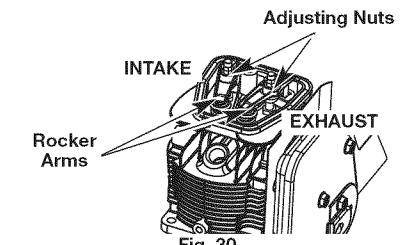

Fig. 30
- The piston is at the top of its travel. This should be done by looking into the spark plug hole (Fig. 30)
The recommended clearance for both intake and exhaust is **.003 - .006 in. (.076 - 0.152 mm)**. Use a standard automotive .005 in. (0.127 mm) feeler gauge. The feeler gauge should slide between the rocker arm and valve stem with a slight amount of resistance, without binding. See Figures 30 and 31.